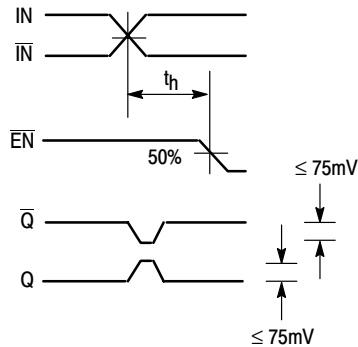

Figure 2. Hold Time
- The hold time is the minimum time that \overline{EN} must remain asserted after a negative going IN or a positive going \overline{IN} to prevent an output response greater than $\pm 75\text{ mV}$ to that IN/ \overline{IN} transition (see Figure 2).